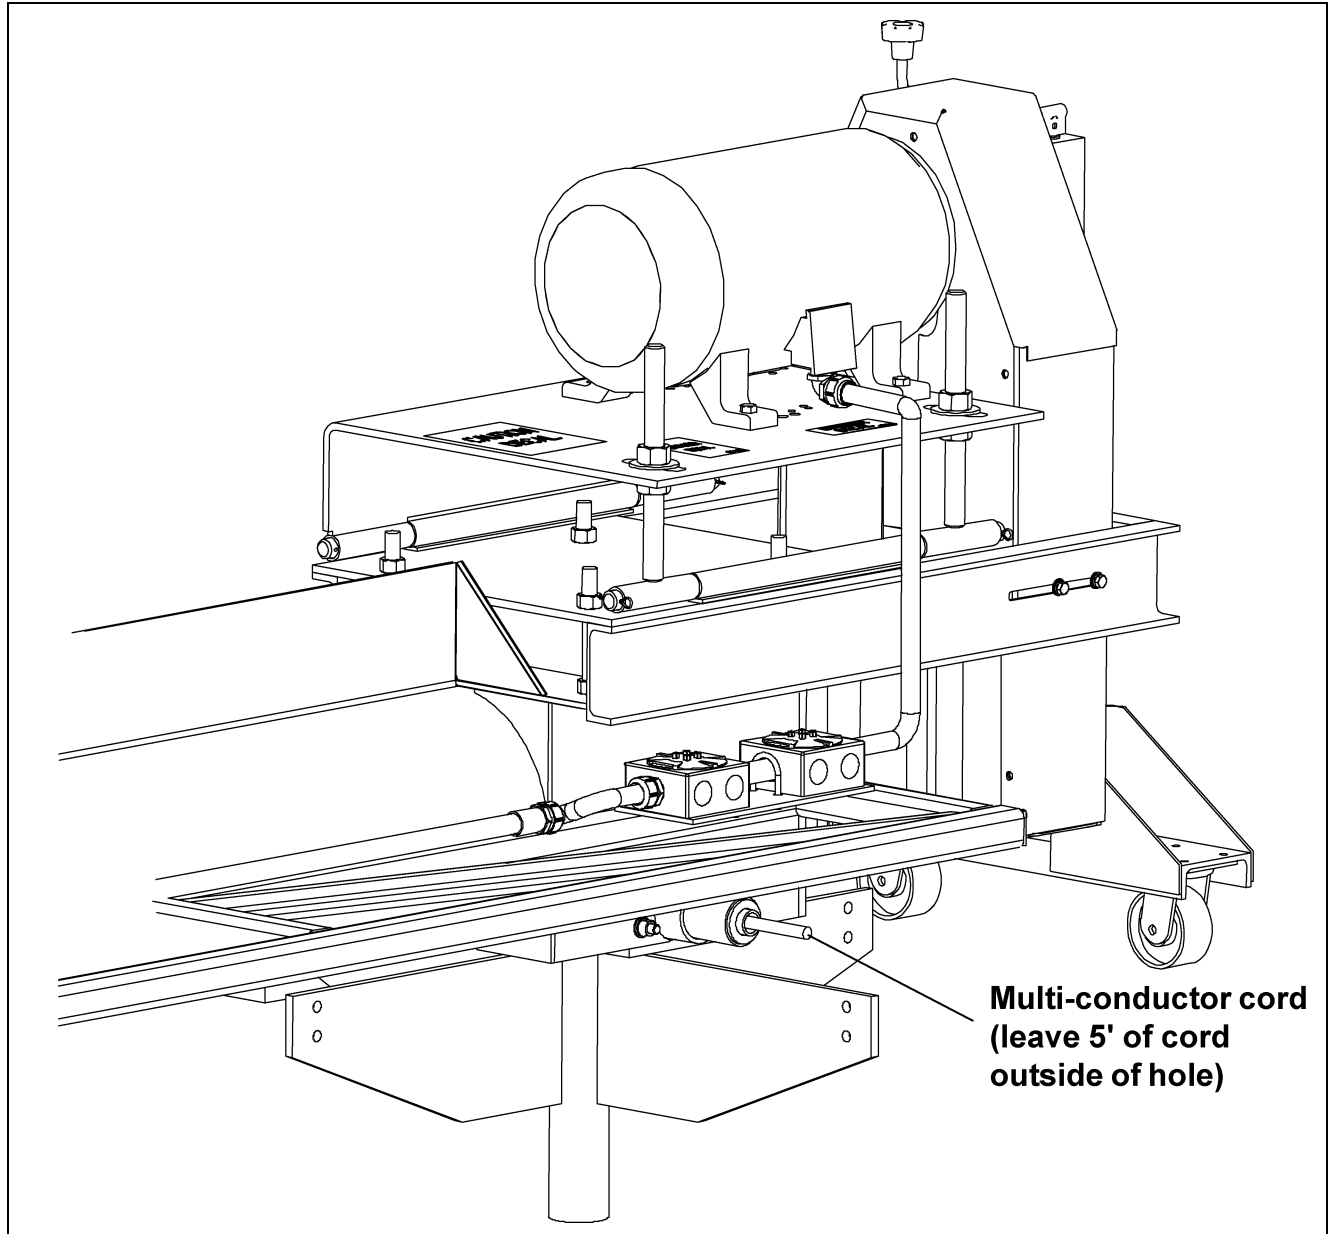

Figure 5AH
3. Feed the power cord through the pivot tube. *(See Figure 5AI.)*